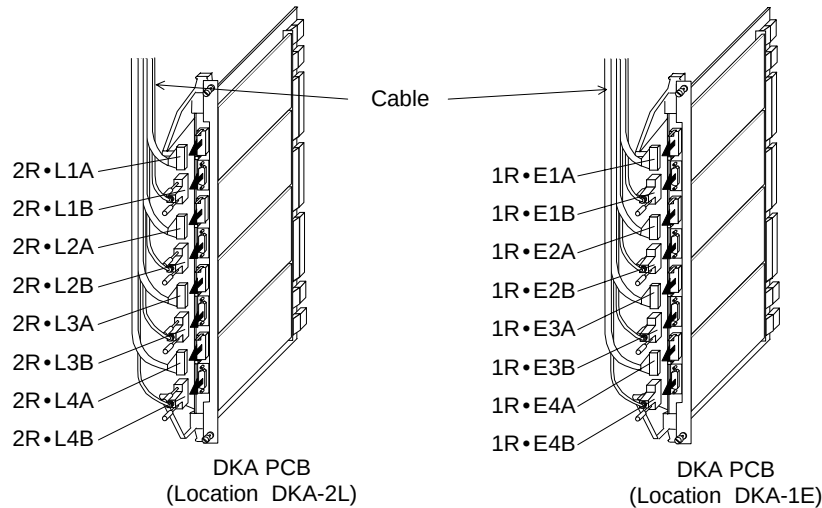

Fig.4.1.4-10 Disconnection of DEV Interface Cable (Add.3)
- a. Remove the two screws and remove the PCBs from the correct locations in the Rear Logic Box referring to Fig. 4.1.4-11.